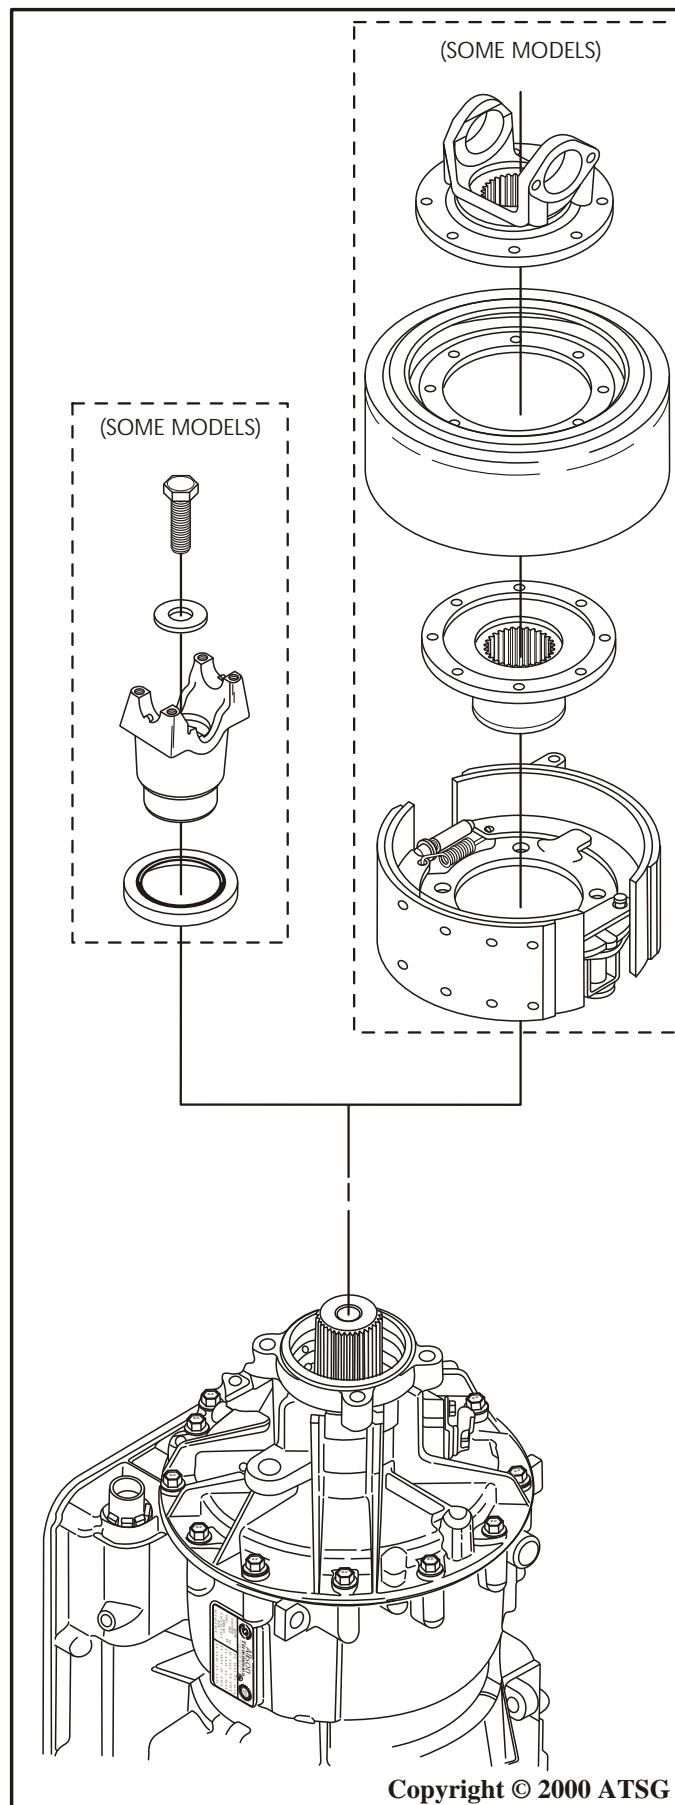

Figure 58
31. Rotate transmission case so that the extension housing is facing up as shown in Figure 58.
32. Remove the yoke from the transmission if it is equipped with one, as shown in Figure 58.
Note: *Some models are equipped with the parking brake as shown in Figure 58. Four Wheel Drive models will have neither.*